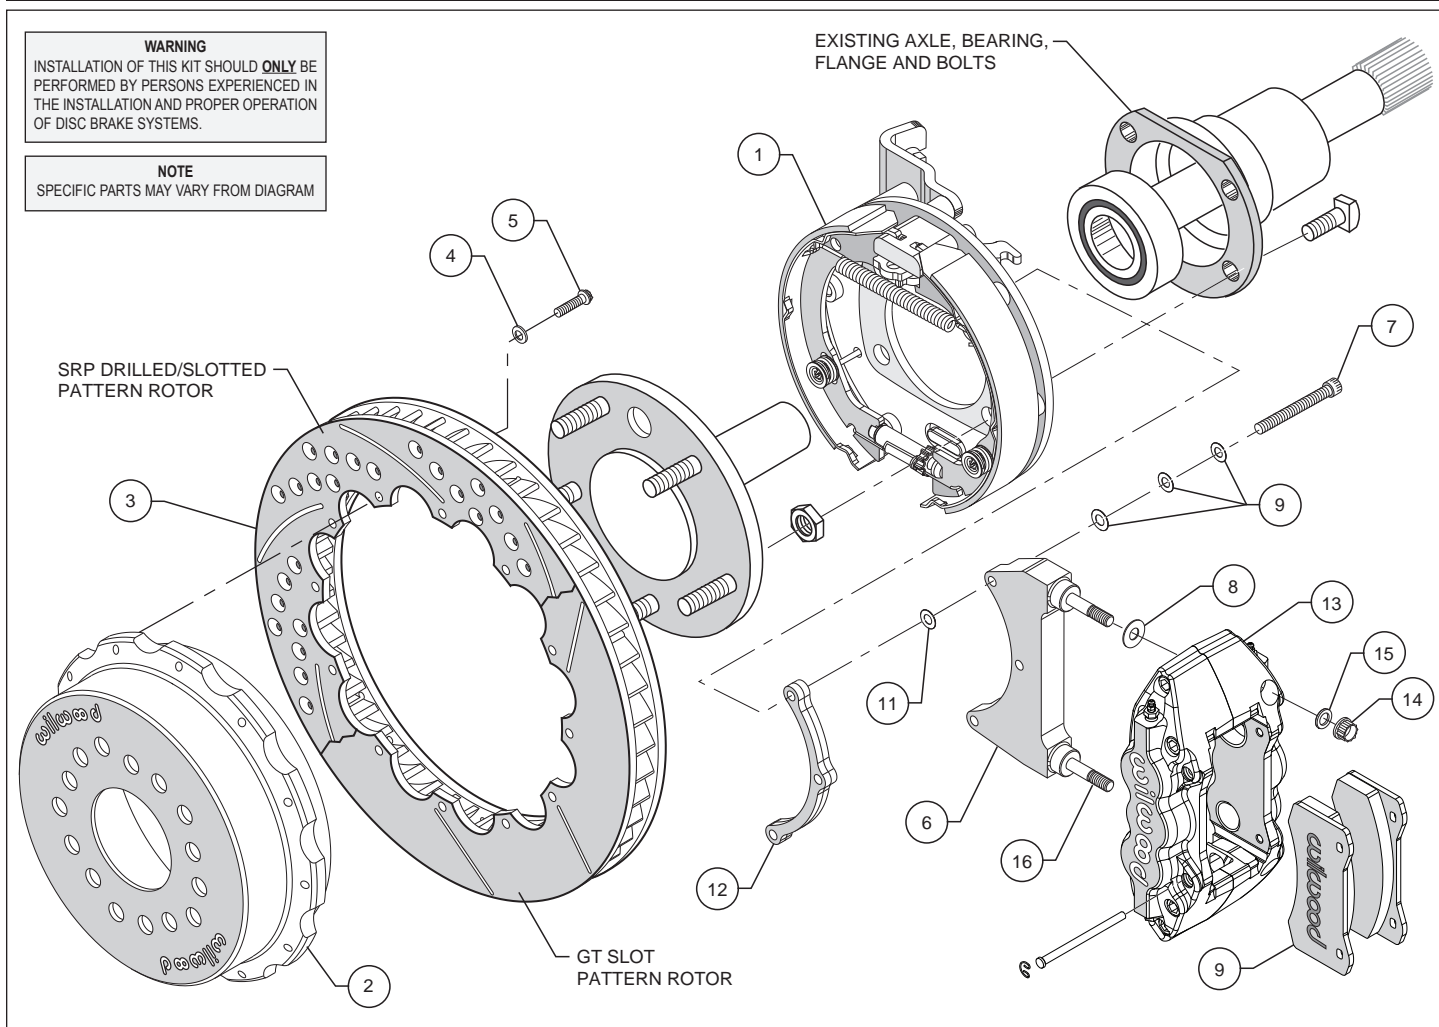

Figure 1. Typical Installation Configuration
- **NOTE:** Please reference the caution statement at the beginning of the assembly instructions. The caliper mounting bracket assembly (6) should be installed first with clean, dry threads on the mounting bolts (7). Install the bracket from the rear side of the bracket kit assembly (1) by sliding bolt (7) through three flat washers (9), bracket (6), shim washer (11) and finally through the spacer (12), see Figure 1. **NOTE:** End of bolt should not exceed inside face of insert. The bracket must tighten squarely against the back side of the bracket kit assembly (1). Inspect for interference from casting irregularities, machining ridges, burrs, etc. Use one thin shim (11) between the bracket (6) and spacer (12) during initial trial fitting.
- Lubricate caliper mounting studs and nuts with lightweight oil. Install one shim (8) over each pre-installed stud (16) on the radial mount bracket (6). Slide the caliper (13) in place over the studs and rotor, then install the washer (15) and lock nut (14) to hold the caliper in place. The caliper bleed screws should be pointing up. Snug the lock nuts (14) and check that the rotor (3) is centered in the caliper (13). Add or subtract .015" shims (11) as necessary between the caliper mounting bracket (6) and the spacer (12) to center the caliper (13).
- Remove the two caliper pad retaining pins from the caliper (13) by popping out the pin retaining clips and sliding out the pins. Slide the brake pads (10) into place. They should install easily without interference. Check that the outside radius of the brake pad is flush with the outside diameter of the rotor face. Add or subtract shims (8) between the caliper (13) and mount bracket (6) to gain the proper alignment. Reinstall the pad retainer pins and secure using the pin retaining clips.
- Adjust the parking brake shoes outward (using a drum shoe adjustment tool available at your local auto parts store) while spinning the hat (2) until a slight drag is felt against the hat/drum. Remove the lug nuts that were holding the hat/rotor in place. Install the wheel and lug nuts. Check to see that the wheel rotates freely without interference.
- Once all clearances have been checked, remove the wheel, caliper, hat/rotor from the bracket kit assembly (1). Secure the caliper mounting bracket (6) to the bracket kit assembly (1) using red *Loctite*® 271. Torque bolts (7) to 180 **in-lb**. Reinstall the hat/rotor assembly and again use lug nuts to hold it in place. Reinstall the caliper, torque the caliper nuts (14) to 30-35 ft-lb.